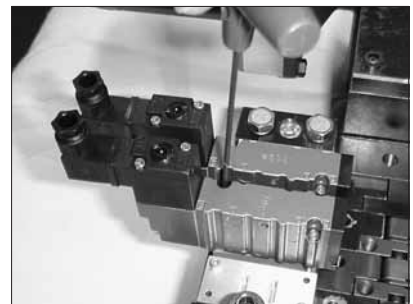

Figure 7-86 Installing solenoid valves
3. See Figure 7-86. Carefully align the heat isolation gaskets and solenoid valves on the applicator and use a 2.5-mm hex wrench to secure them.